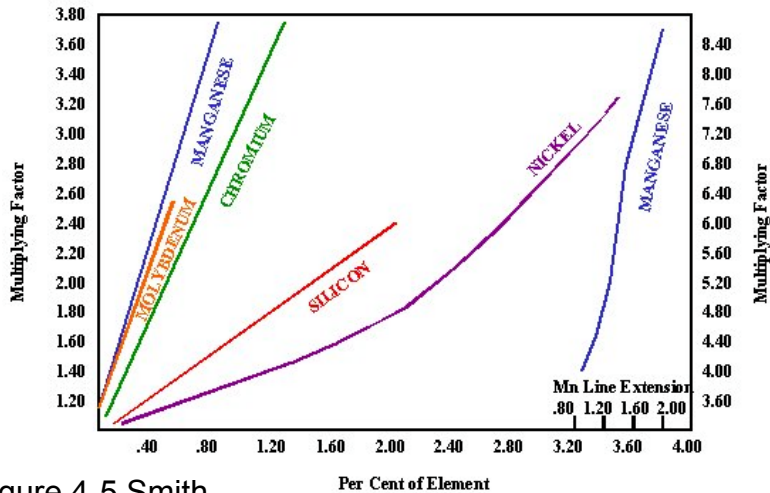

Figure 4-5 Smith
- Calculate multiplying factors for each element (Figure 4-5, pg. 136 Smith)
Figure 4-5 from text and website
- Find multiplying factors from Figure 4-5